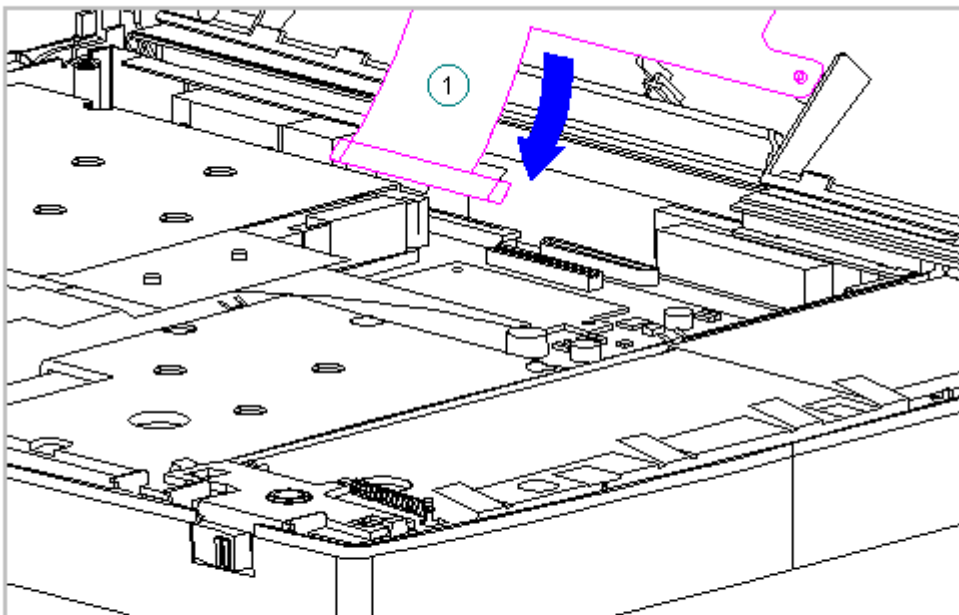

Figure 5-96. Connecting the Display Ground Cable - CSTN (10.4 in Display)
9. Connect the display ground cable [1] to the flex ground bracket above the serial port connector (Figure 5-96).